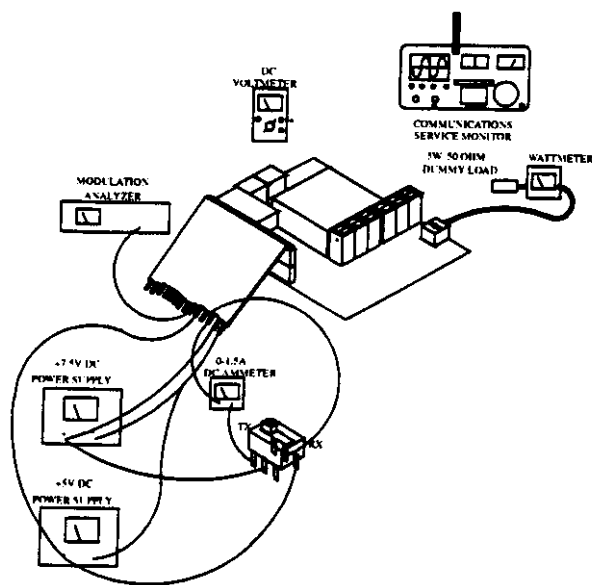

Figure 6-1 TRANSMITTER TEST SETUP
1. Connect the test setup shown in Figure 6-1.